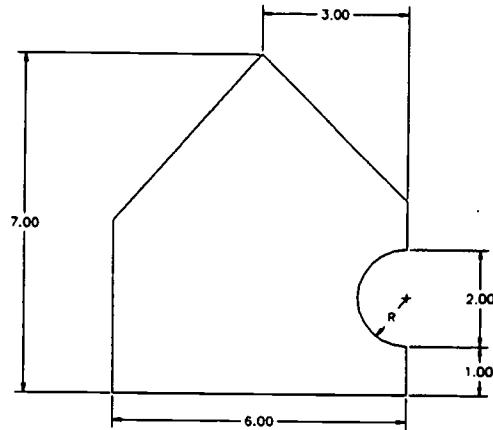

Figure 3
3. Use Geo_Edit >> Modify on two lines to create "house" as shown in figure 3.